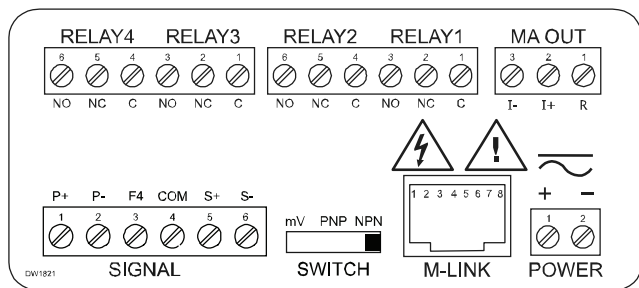

Figure 6: Connector Labeling for Fully Loaded YPP6300
Power connections are made to a two-terminal connector labeled POWER on Figure 6. The meter will operate regardless of DC polarity connection. The + and - symbols are only a suggested wiring convention.
Signal connections are made to a six-terminal connector labeled SIGNAL on Figure 6. The COM (common) terminal is the return for the input signals.
Serial communications connection is made to an RJ45 connector labeled M-LINK on Figure 6. For interfacing to the **PROPLUS**, use the YPPA1232 for RS-232, the YPPA1485 for RS-485, or the YPPA8008 for USB. The same port is used for interfacing with all expansion modules (e.g. external relays, digital I/O).
Relay connections are made to two six-terminal connectors labeled RELAY1 – RELAY4 on Figure 6. Each relay's C terminal is common only to the normally open (NO) and normally closed (NC) contacts of the corresponding relay. The relays' C terminals should not be confused with the COM (common) terminal of the INPUT SIGNAL connector.